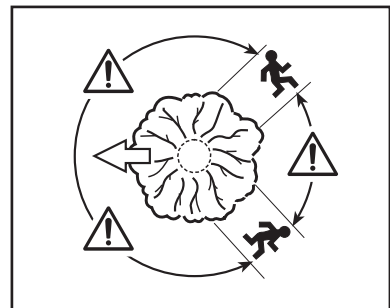

Fig. 9a
3. An escape path should be planned and cleared as necessary before cuts are started. The escape path should extend back and diagonally to the rear of the expected line of fall (Fig. 9a).